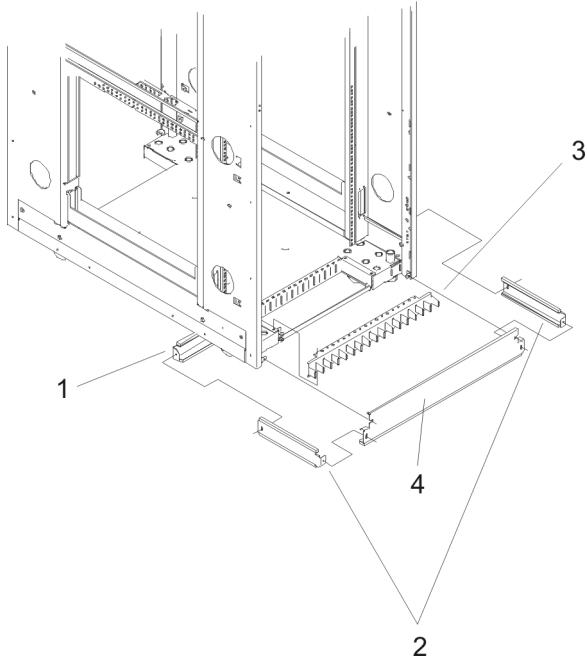

Figure 29. EMC skirt for M/T 9119-590 and M/T 9119-595 frames
1. At the front bottom of frame, install rear skirt by sliding into place under frame (refer to 1 in Figure 29 on page 90)
2. Attach left side skirt to rear skirt by using (m5 X 16) screw (refer to 2 in Figure 29 on page 90)
3. Attach right side skirt to rear skirt by using (m5 X 16) screw (refer to 2 in Figure 29 on page 90)
4. Install cable retainer to front bottom cutout using existing self tapping screws (refer to 3 in Figure 29 on page 90)
5. Attach front skirt to bottom of frame using two (m5 X 16) screws (refer to 4 in Figure 29 on page 90)
6. Attach front skirt to left and right side skirts using (m5 X 16) screws (refer to 2 and 4 in Figure 29)